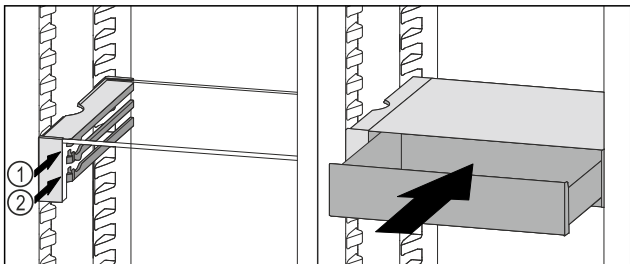

Fig. 183
- ▶ Place the VarioSafe drawer behind the stoppers on desired rib Fig. 183 (1) or Fig. 183 (2).